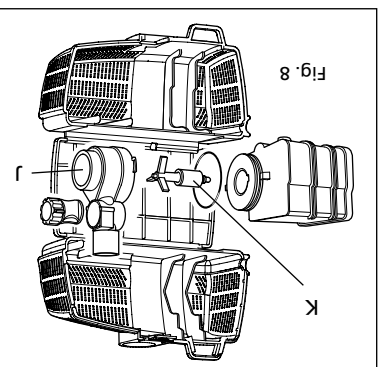

Fig. 8
4. Pull the Rotor Assembly out of the Motor Body. See Fig 8 (K).